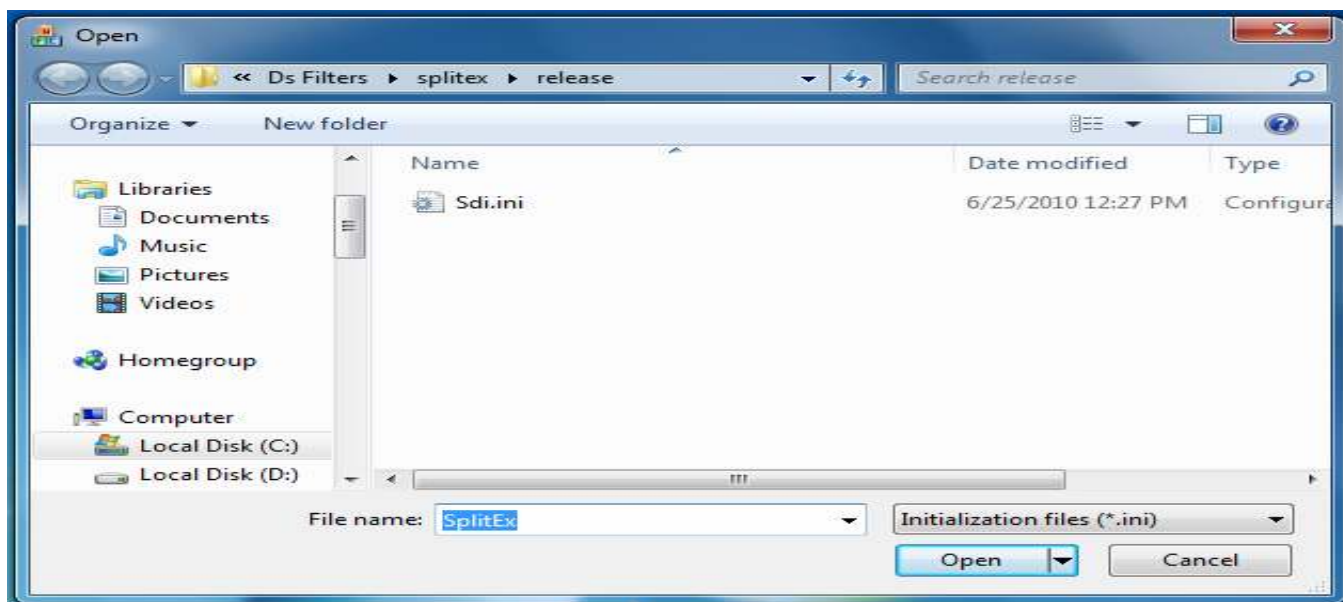

Figure 4.5 Open window displaying Sdi.ini file
- This pops up an Open window which will have the “Sdi.ini” file already selected (*Fig 4.5*) if not go up one folder level “SplitEx”, select the “Sdi.ini” file and click Open.